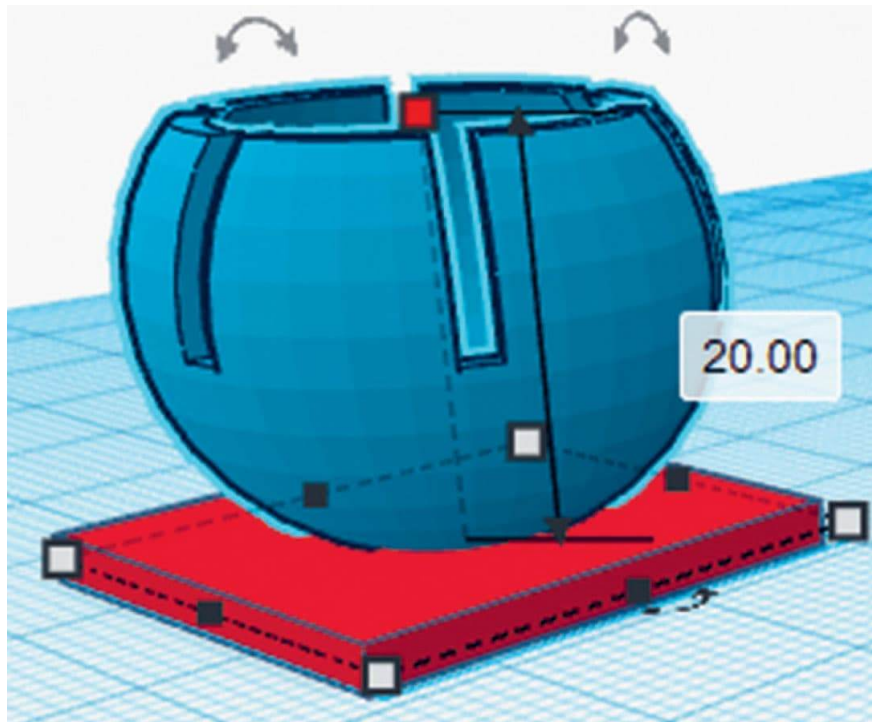

FIG. 4: The completed socket design with grouped slot holes and spheres resting on a base.
4. **Group** the slot holes and the hollow socket to complete the socket frame. Move the entire socket up vertically by 1 mm and add a 2 mm base right below it as shown in fig. 4.